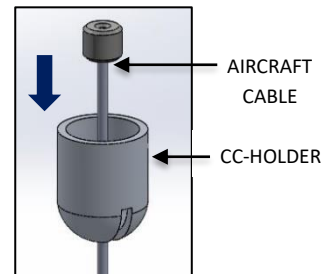

FIG. 11 - SS ROPE CABLE
7. Locate the AIRCRAFT CABLES. Feed all the AIRCRAFT CABLE through the CC-HOLDER. Once fed all the way through, screw CC-BASE and CC-HOLDER together as shown in FIG. 11.